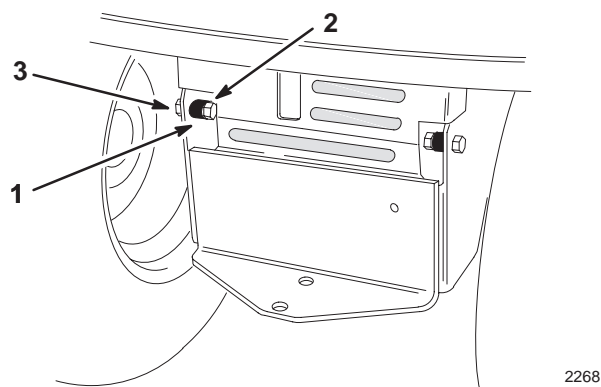

Figure 2
1. Install spacers on the inside of the tractor frame, using 2 bolts (3/8 x 1-1/2 inch) and 2 locknuts (3/8 inch) (Fig. 2).